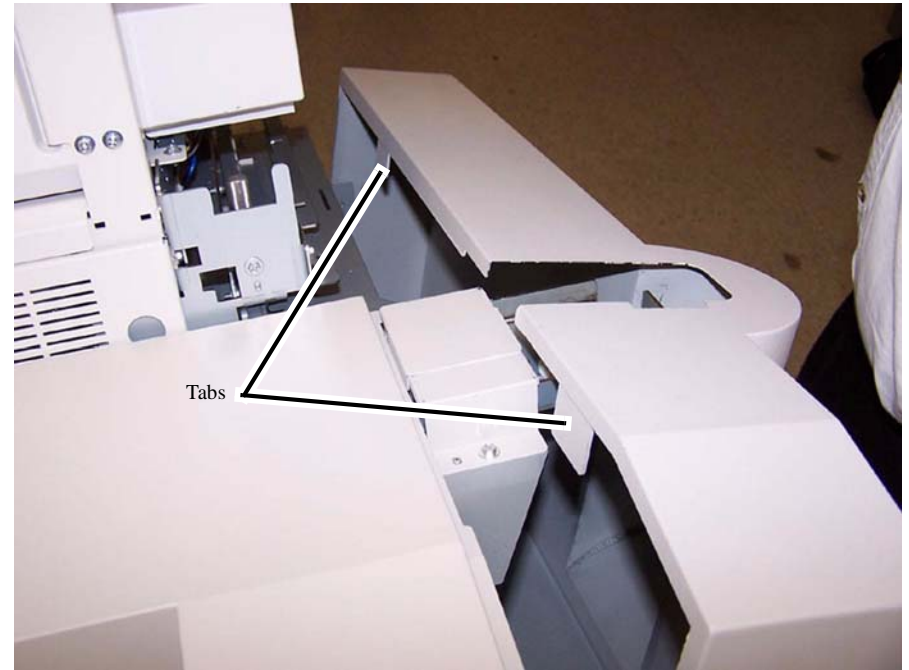

Figure 3 Removing the Right Upper Cover
- a. Slowly lift the cover just enough to disengage the front and rear tabs that fit into the slots in the top of the frame (Figure 3).